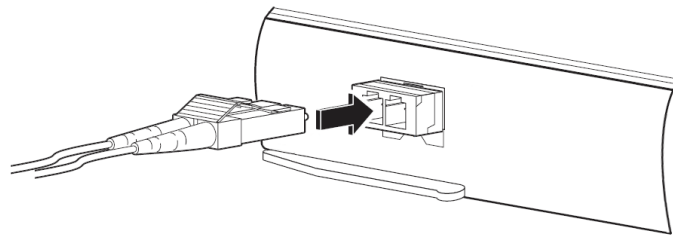

Figure 11: Connecting the cable to SFP+ Module
3. Insert the fiber cable into the module, as shown in Figure 11.